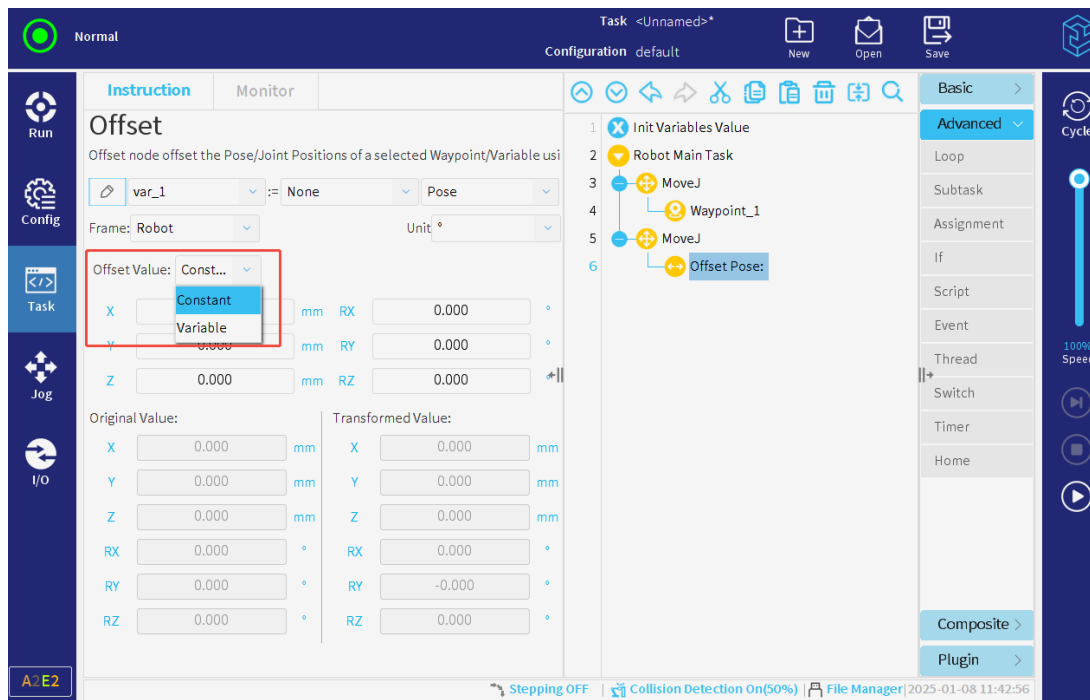

Figure 3-118 : To Specify Offset Values
- To specify the offset value to be a constant or variable one, as presented in **Figure 3-118**.